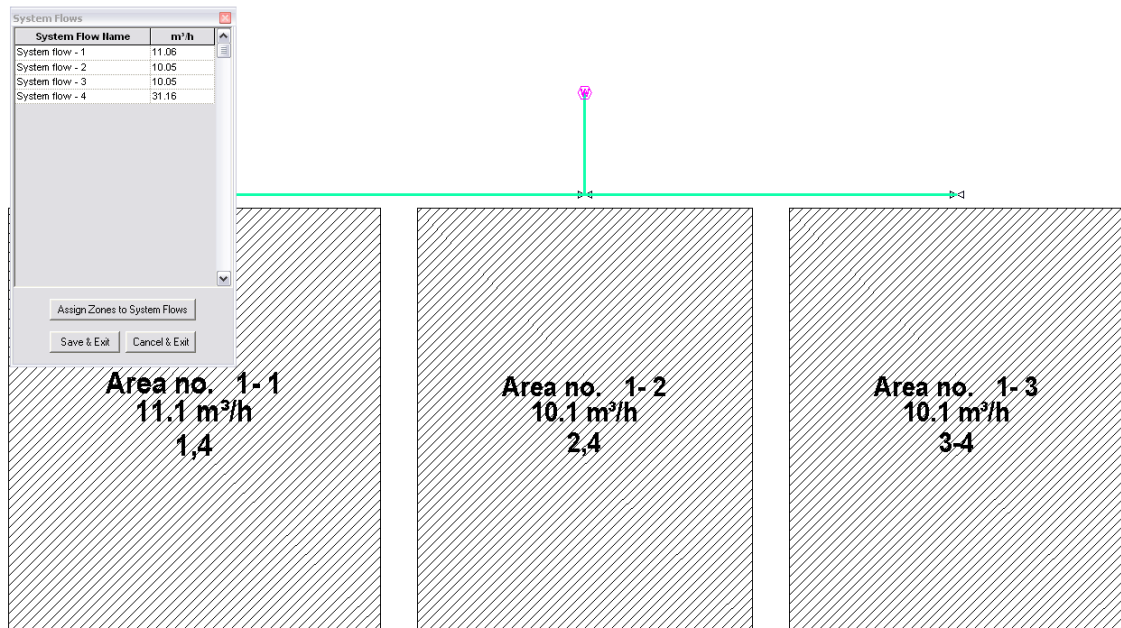

Figure SM 18
- Now we will specify how the zones will be operated. As we want each zone to run by itself select *Design/Assign Each Zone to a Unique System Flow*. The dialog will automatically assign system flows to our zones. Note also that each zone has been given a new name based on the original block area name. See Figure SM 18. Click [OK].